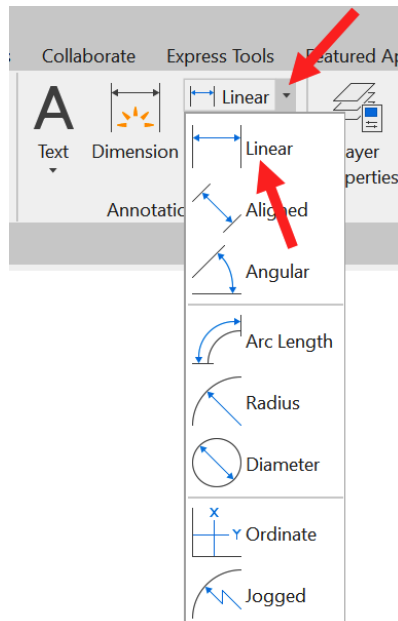

Figure 8.24: The dimension drop-down menu in the Annotation panel on the Home tab on the ribbon
14. You can now add dimension annotation to the drawing. You can access the dimension drop-down menu from the **Annotation** panel you have been using, or you will also find it on the **Annotate** tab in the **Dimensions** panel. *Figure 8.24* shows the dimension drop-down menu in the **Annotation** panel on the **Home** tab on the ribbon. Make sure **Object Snaps** are switched on in the status bar for accurate dimension placement, and then select the **Linear** dimension type, as also shown in *Figure 8.24*: